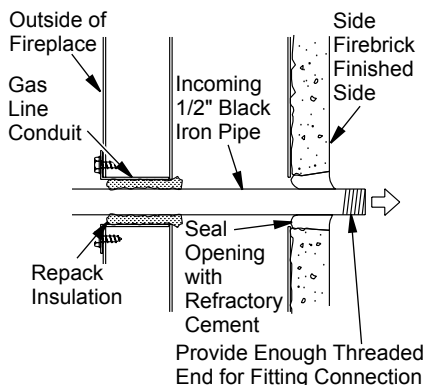

Figure 19 - Gas Line Installation
3. Run a 1/2" black iron gas line into fireplace through rear at gas line conduit sleeve (if using a raised platform, add height). Provide sufficient gas line into fireplace chamber for fitting connection (see Figure 19).